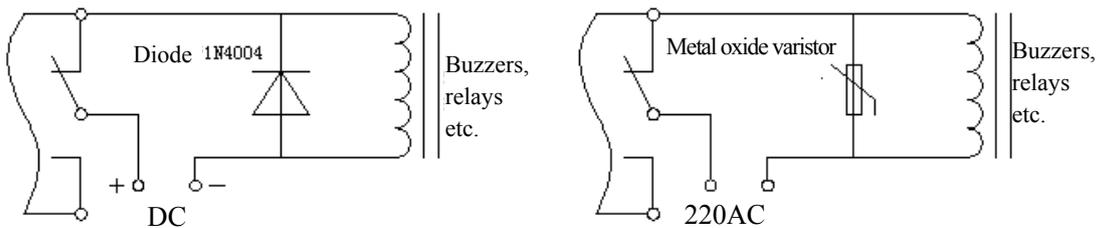

Figure 4: Protection Circuit for Relay Contacts
- 4.5 The inductive load (electric bell, buzzer, and relay etc.) on the small power relay must be restricted. When the voltage on the inductive load exceeds 1,000V, an error alarm may be given and the contactor of relay may be damaged. Relay protection circuit of common AC and DC (refer to figure 4: Relay Output